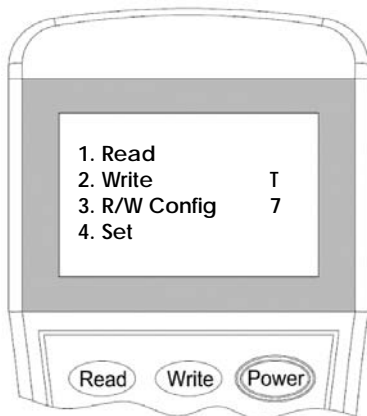
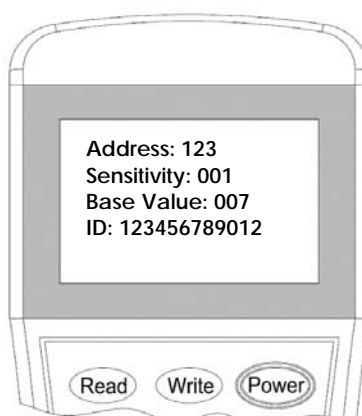

Figure 9
Figure 10
2. Switch-on the programmer, then press button **"Read"** or **"1"** to enter to Read mode (Figure 9). The programmer will display the configuration after few seconds. (Figure 10).